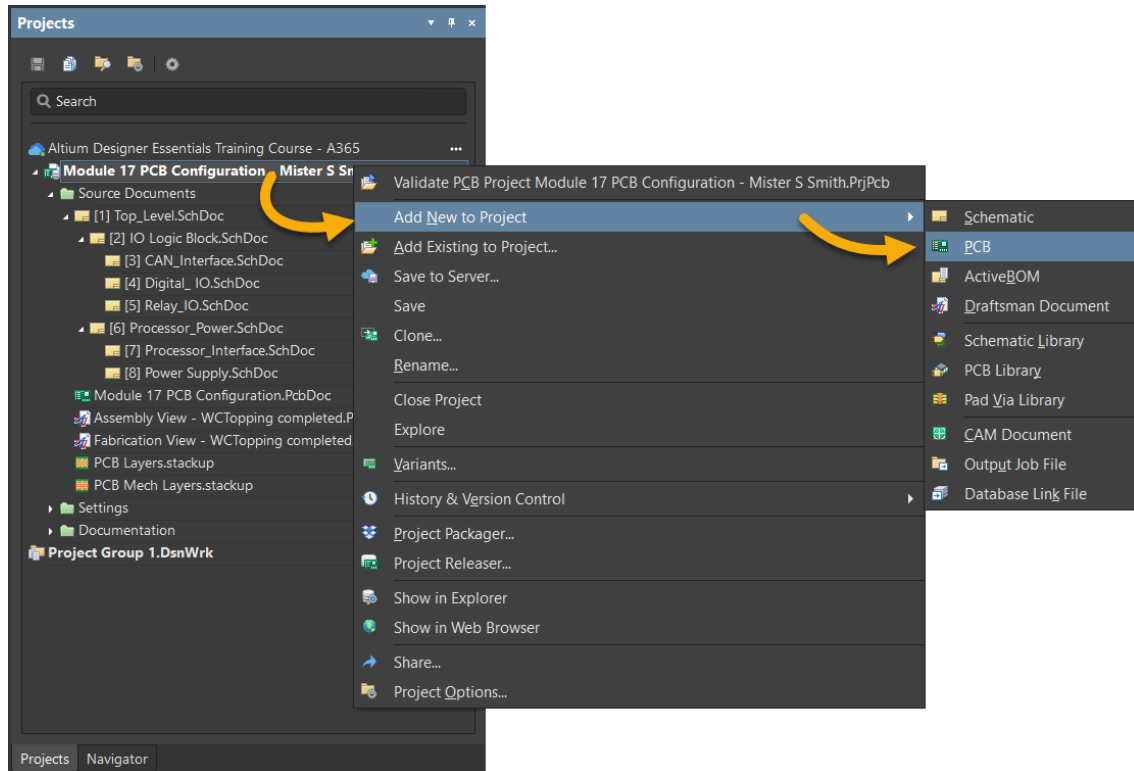

Figure 1. Add new PCB to the Project
9. Add a new PCB document to the project by opening the *Projects* panel and right-clicking on the project name. From the right-click menu, select **Add New to Project » PCB** as seen in Figure 1 below.